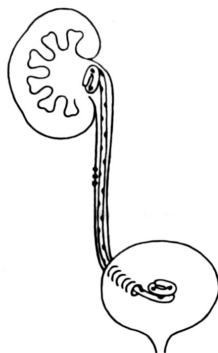

Fig. 5
7. Remove the wire guide, allowing the stent coil to re-form (**Fig. 5**).